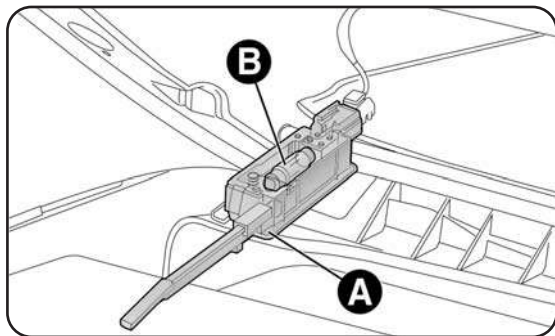

fig. 34
- open the glove compartment, and remove the light A - fig. 34;